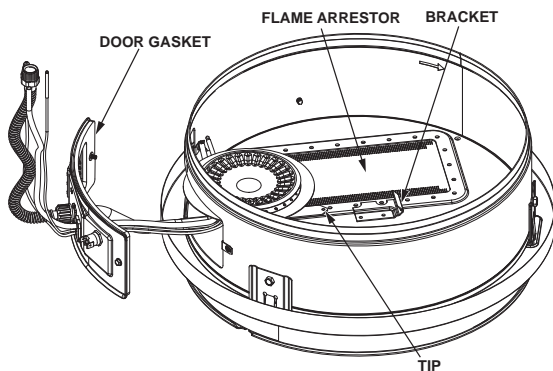

FIGURE 30.
3. Insert the manifold/burner assembly into the burner compartment making sure that the tip of the manifold tube engages in the slot of the bracket inside the combustion chamber (Figures 30 & 31).